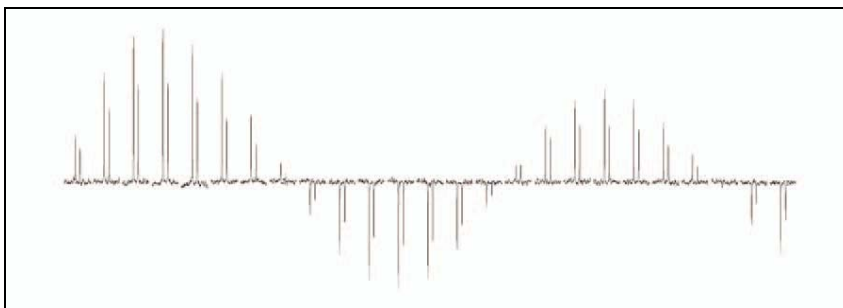

Figure 77 CPMAS pwX90 for 4.0 /s  $^{13}\text{C}$  90-degree pulse
22. The result is similar to Figure 77.